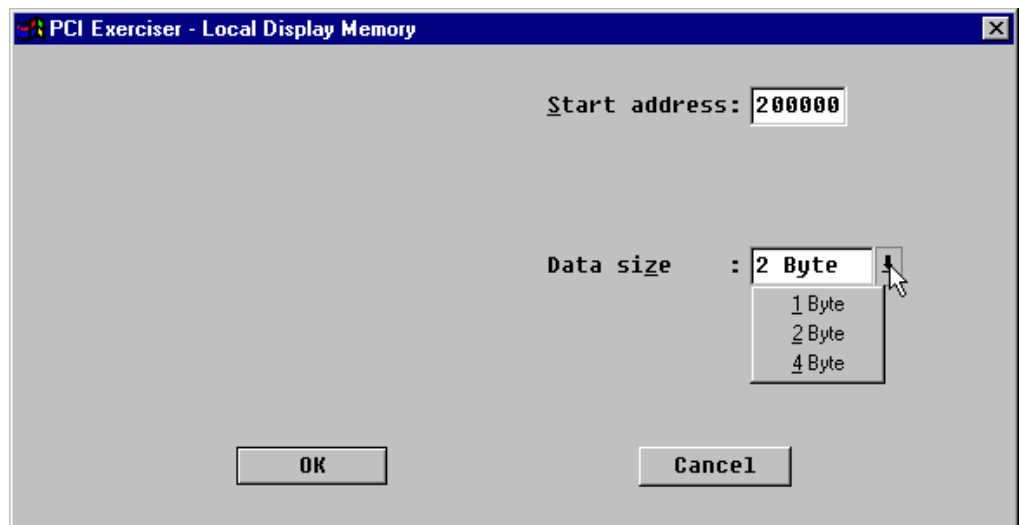

Figure 6.37 Local Display command
**Local menu:** Select Display from the Local menu, and the dialog box in Figure 6.37 appears.